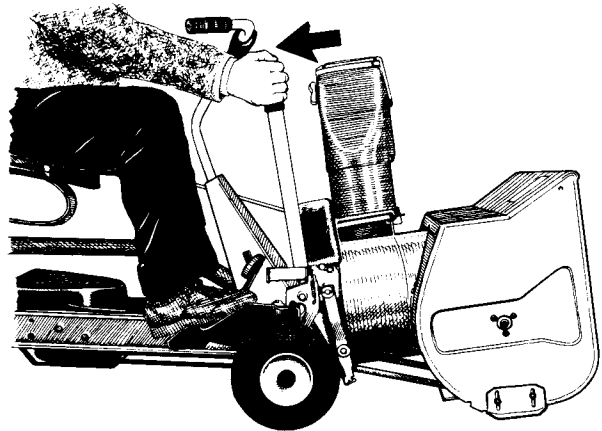

FIGURE 2 - PULL REARWARD TO TRANSPORT
5. **RIDER MOTION:** To begin forward or rearward motion, pull back on the Thrower lift handle to latch in transport position (Figure 2), depress the CLUTCH/BRAKE pedal and move the SHIFT LEVER to #1 forward speed or into REV to back up — hold lever in REV while backing up and depress CLUTCH/BRAKE pedal to stop reverse motion. The CLUTCH/BRAKE pedal does not have to be depressed to shift to higher speeds. Push the CLUTCH/BRAKE pedal all the way down to stop forward or rearward motion.